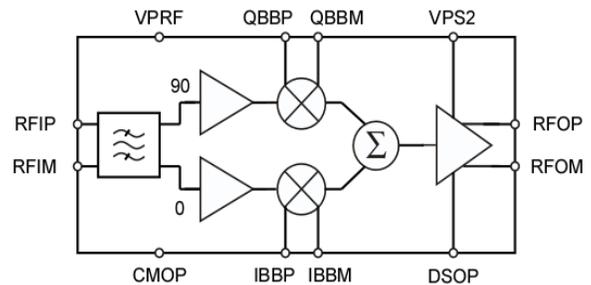

Figure 1. AD8340 Functional Block Diagram
The AD8340 is a linear RF vector modulator with Cartesian base-band controls. A simplified block diagram is given in Figure 1. The RF input is first split into in-phase (I) and quadrature (Q) components. The linear variable attenuators dedicated to each branch scale their respective inputs. The attenuator outputs are then summed and buffered to the output. The RF signal path generally propagates from the left to the right while baseband controls are placed above and below.